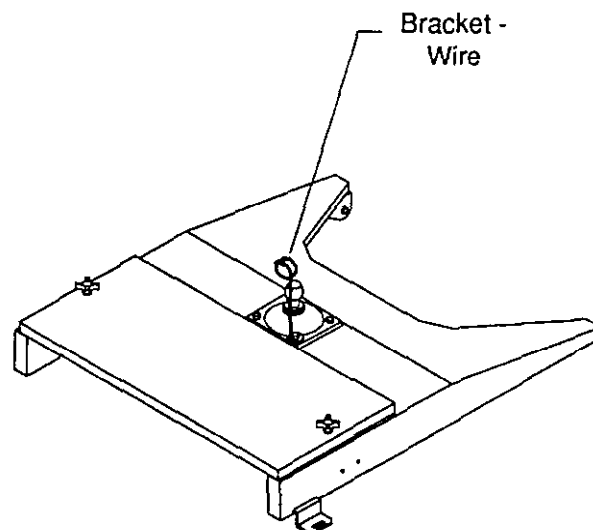

Figure 4
5. Route and secure all hoses and wires in a manner that will prevent entanglement with the Workman, yet provide sufficient slack to allow turns in either direction. Exit the wires from the GA-60 near the tongue socket and route through the wire bracket on the 5th wheel hitch. (See Fig. 4)